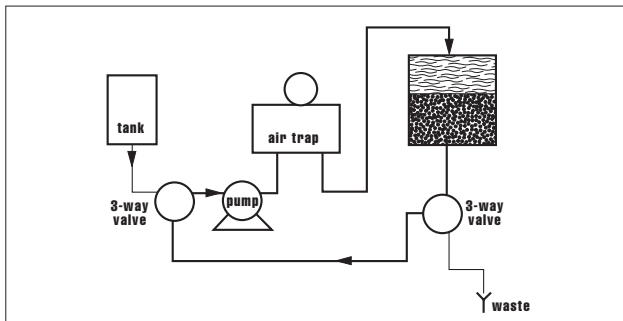

Fig. 3. Equipment set up for pressure/suction packing.
5. When the medium has stabilized, the top of the bed should be exactly level with the top of the column tube. At this point, exclude the buffer tank from the system by simultaneously switching the valve at the column outlet and the valve on the suction side of the pump, as shown in Fig. 3. Packing buffer is now recirculated through the system. If, when stabilized, the packed bed is not exactly level with the top of the column, add or remove slurry. Always stir the slurry thoroughly before packing.
4. Connect the column outlet valve to the suction side of a pump and start packing the bed by suction through the bed at the predetermined flow rate, see Fig. 3. Keep the flow rate constant during packing.